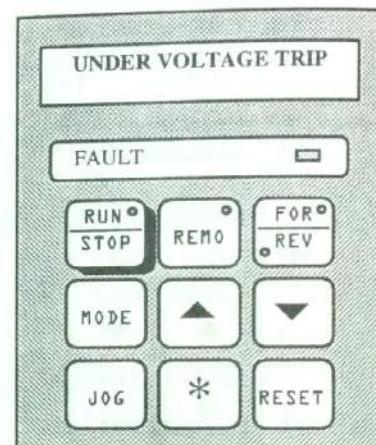

FIG. 3.17
- ☛ Release **REMOTE** key.(fig. 3.17)